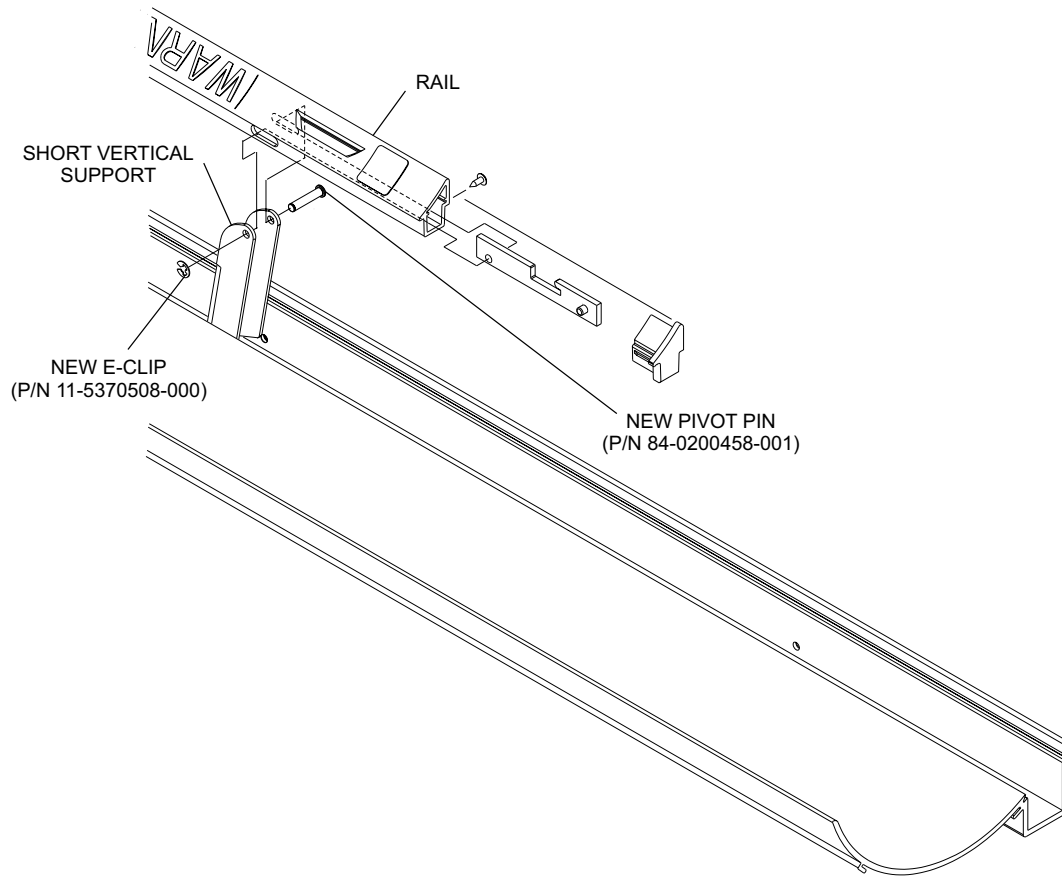

Figure 8
- Secure the new short vertical support to the rail using new pivot pins (P/N 84-200458-001) and E-clips (P/N 11-537050-000). Verify that all E-clips are fully seated in the groove of the pin. Refer to *Figure 8*.